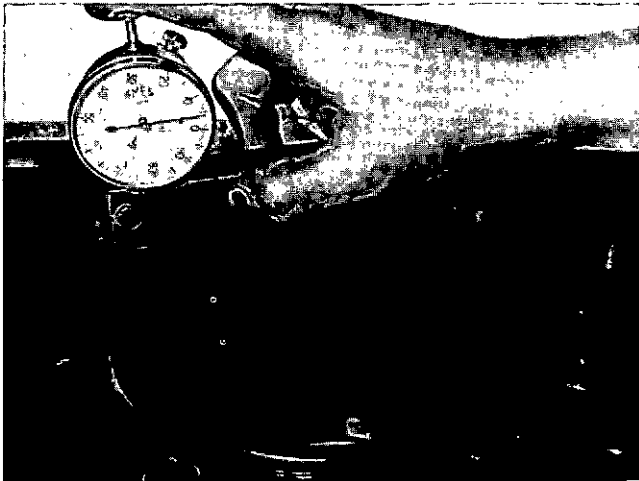

Fig. 14-1-20, V414115. Checking liner protrusion
(1) At point "C," approximately 1 inch [25.4000 mm] below top of liner, it is permissible to have up to 0.003 inch [0.0762 mm] of out-of-round.
(2) At other points, each about 2 inch [50.8000 mm] lower than preceding depth, out-of-round must not exceed 0.002 inch [0.0508 mm].
5. Check liner protrusion at four equidistant points with ST-547 Gauge Block to determine if protrusion is uniform and 0.004 to 0.006 inch [0.1016 to 0.1524 mm] above block. Measure outside of bead. Fig. 14-1-20.